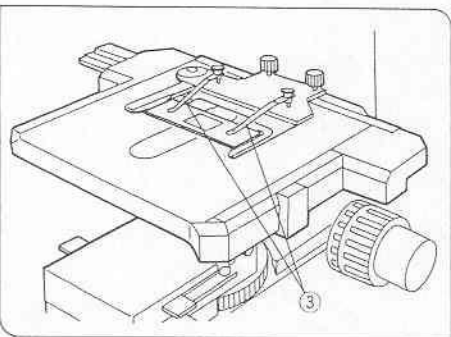
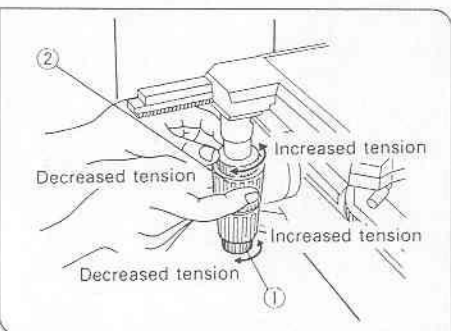

Fig. 39
Fig. 40
1. Loosen the filter cassette clamping screw ①. (Fig. 39)
2. Holding the filter cassette above the light exit glass, align the key ② with the slot ③ and press the filter cassette into place from above.
3. Rotate the filter cassette to align its sides with the base. (Fig. 40)
4. Align the clamping screw ① with the positioning hole ④ on the light exit, then tighten the screw to fasten the filter cassette.
(Fig. 40)